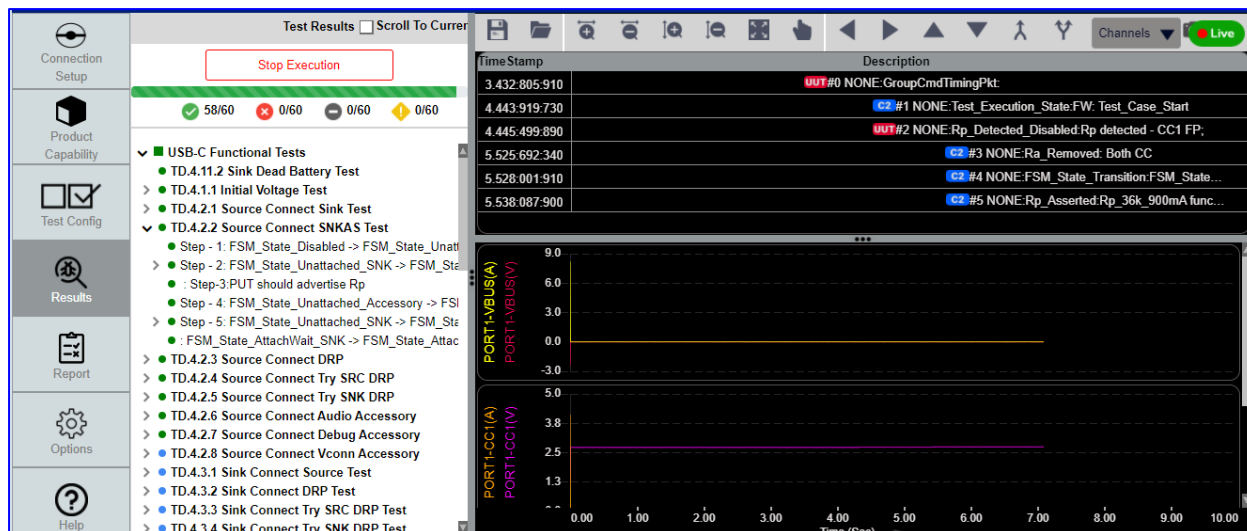

FIGURE 5.3: RUNNING FUNCTIONAL COMPLIANCE TEST CASES WITHOUT USB DATA SUPPORT
- As tests are running, the “Results” screen will display the progress and status of the test runs along with the PDO communications exchange protocol and live signal trace plot as shown in Figure 5.3 below.